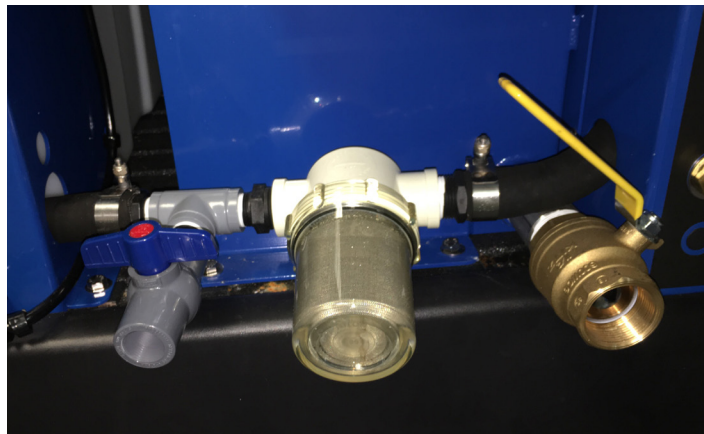

Figure 73. Fully Installed In-line Filter Kit
8. Route the coolant hose from the chemical pump on the power pack behind the Alfa Laval unit and through the front panel on the recovery tank and attach it to the filter and tighten the clamp on the hose. Attach the drain valve side of the assembly to the 6" hose assembly that's connected to the cradle tank. Align the units so both units are facing the same direction and tilted towards the ground. (Figure 73)